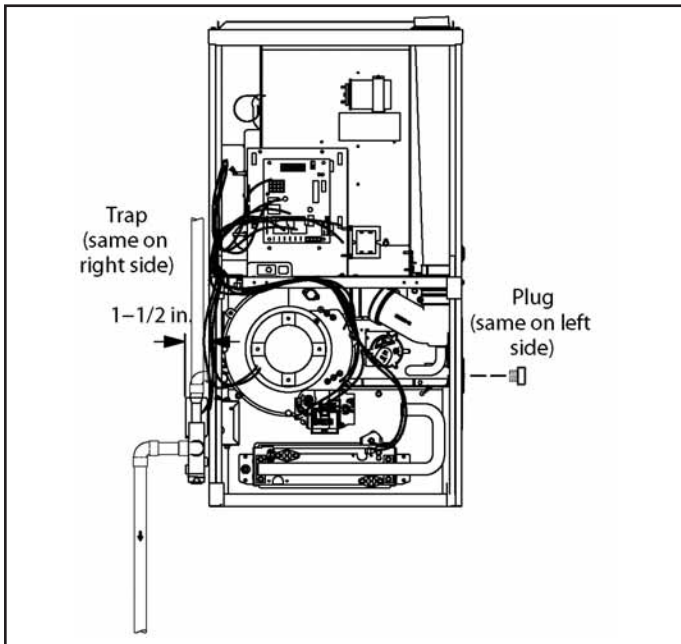
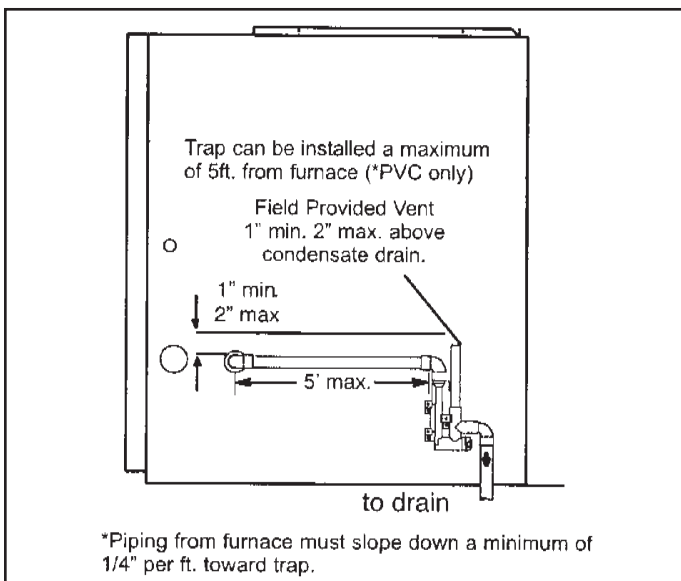

Figure 38. Condensate Trap and Plug Locations
Figure 39. Condensate Trap Location
This unit is designed for either right- or left-side exit of condensate piping. Refer to Figure 38 and Figure 39 for condensate trap locations. Figure 44 and Figure 45 show trap assembly using 1/2" PVC or 3/4" PVC.
2. Use a large flat head screw driver or a 1/2" drive socket extension and remove plug (Figure 38) from the cold end header box at the appropriate location on the side of the unit. Install provided 3/4 NPT street elbow fitting into cold end header box. Use Teflon tape or appropriate pipe dope.